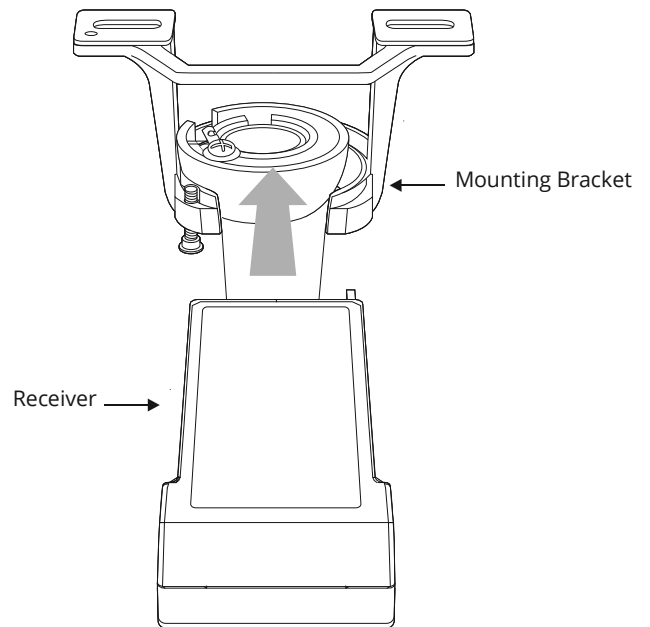

FIG. 11
1. Insert the receiver into the mounting bracket with the flat side of the receiver facing the ceiling (**FIG.11**).